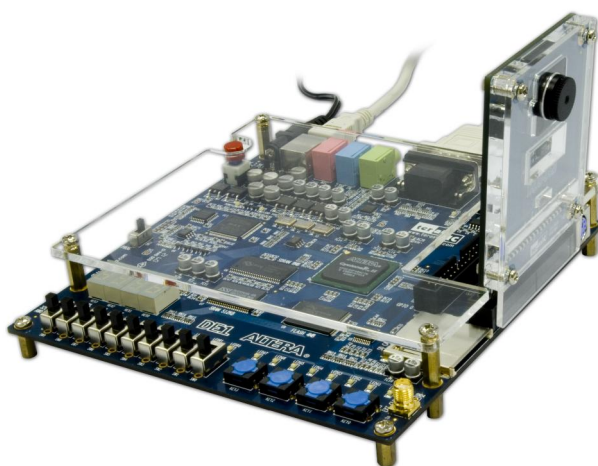

Figure 3.7. The Connection Setup for DE1 users
1. Ensure the connection is set correctly as shown in Figure 3.7. Make sure the D5M is connected to **JP2 (GPIO 1)** of the DE1 board.